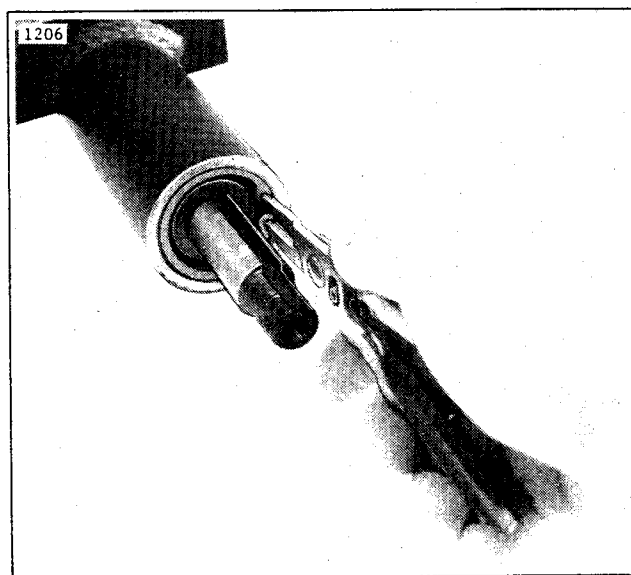

Figure 2A-12D. Removing Snap Ring
8. Remove snap ring (6) from axle housing (Figure 2A-12D).
9. Axle shaft (10), with axle bearing (7) attached, can be removed from the housing with an axle puller.